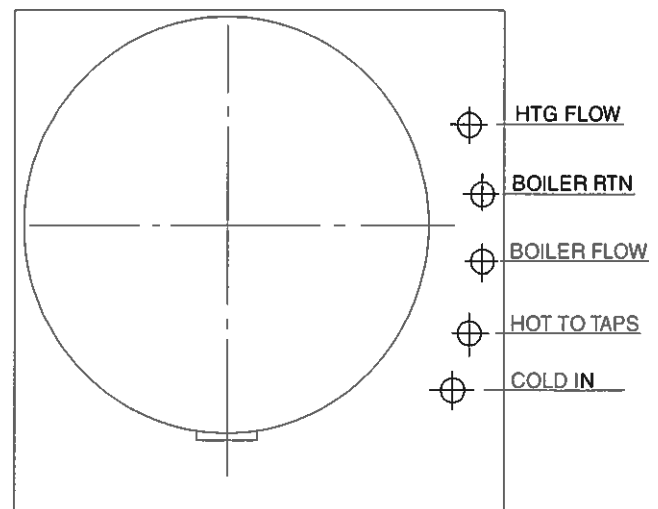

Figure 3.1 Typical arrangement of pipework in cylinder cupboard.
1. Make all water connections in accordance with the labelling on the thermal store and the associated pipework as shown in Figure 3.1.
4. Decide at what stage in your installation work you are going to fit the BoilerMate III. We would suggest that the BoilerMate III should be fitted first and the pipes run from it to the boiler, radiators and domestic hot water supply system subsequently in that order. If the BoilerMate III is installed early in the construction process ensure it is adequately protected or removed and refitted later. If it is decided to install the BoilerMate later in the construction process, the first fix pipework should enter the cylinder cupboard as shown in Figure 3.1